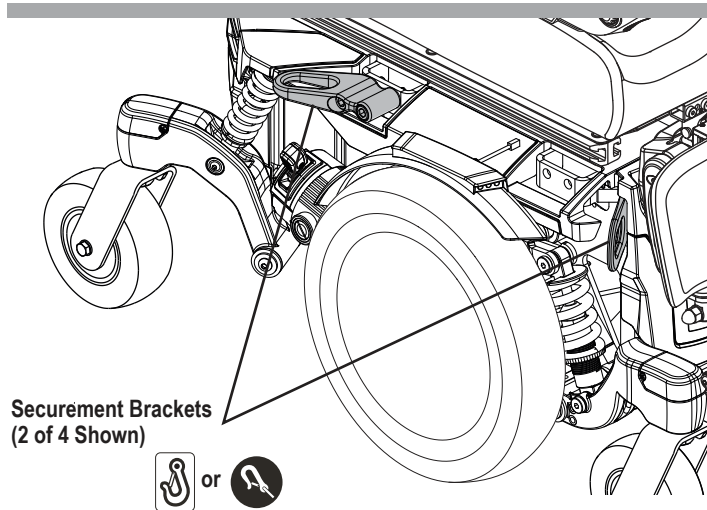

Figure 5. Transit System Securement Brackets
If your power chair is equipped with a transit securement system, it is equipped with manufacturer installed front and rear securement brackets and may be equipped with positioning belt anchoring brackets. **See figure 5.** Refer to the supplement provided with your power chair for information on how to use the transit securement system.
- Attach the four (4) tie-down straps to only designated, labeled transit securement points indicated by anchor symbols on the power chair. **See figures 5 and 6.** Tighten the straps sufficiently to remove all slack.